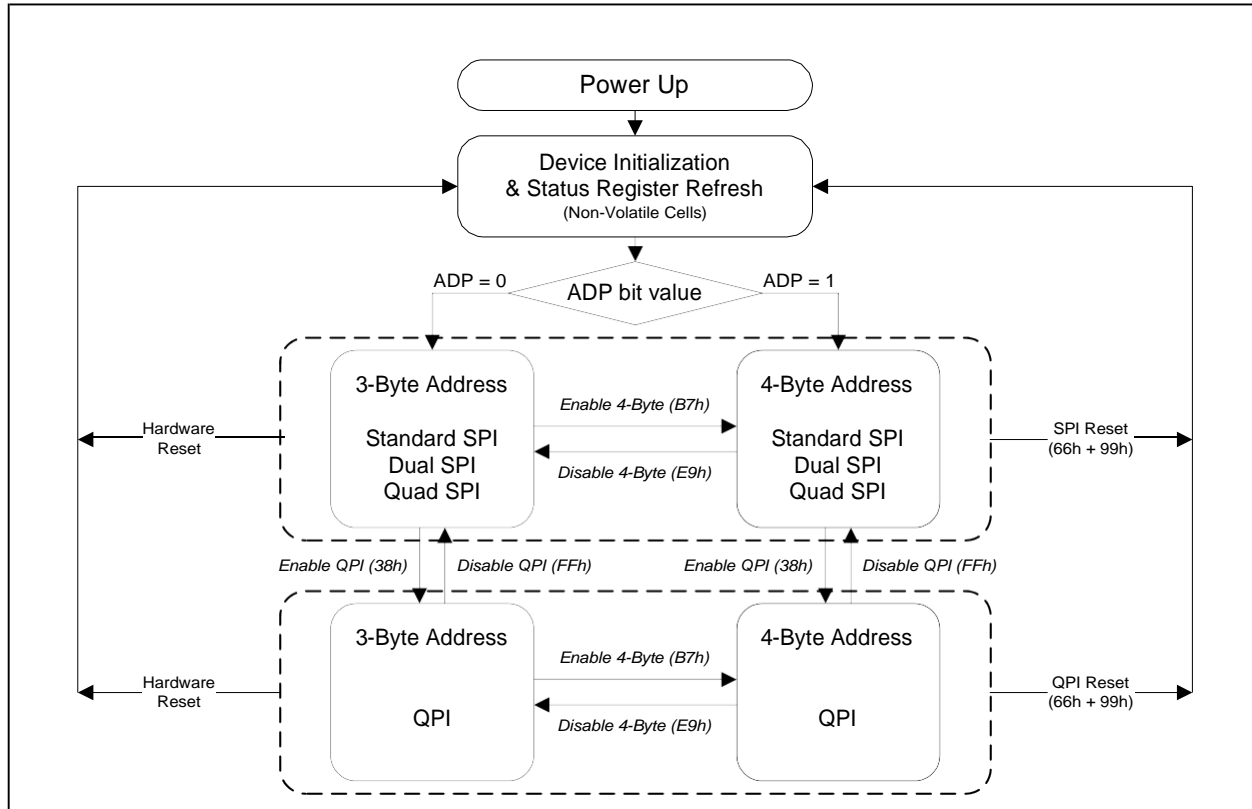

Figure 3. XM25RU512C Serial Flash Memory Operation Diagram
The XM25RU512C supports Quad Peripheral Interface (QPI) operations only when the device is switched from Standard/Dual/Quad SPI mode to QPI mode using the "Enter QPI (38h)" instruction. The typical SPI protocol requires that the byte-long instruction code being shifted into the device only via DI pin in eight serial clocks. The QPI mode utilizes all four IO pins to input the instruction code, thus only two serial clocks are required. This can significantly reduce the SPI instruction overhead and improve system performance in an XIP environment. Standard/Dual/Quad SPI mode and QPI mode are exclusive. Only one mode can be active at any given time. "Enter QPI (38h)" and "Exit QPI (FFh)" instructions are used to switch between these two modes. Upon power-up or after a software reset using "Reset (99h)" instruction, the default state of the device is Standard/Dual/Quad SPI mode. To enable QPI mode, the non-volatile Quad Enable bit (QE) in Status Register-2 is required to be set. When using QPI instructions, the DI and DO pins become bidirectional IO0 and IO1, and the /WP and /HOLD pins become IO2 and IO3 respectively. See Figure 3 for the device operation modes.